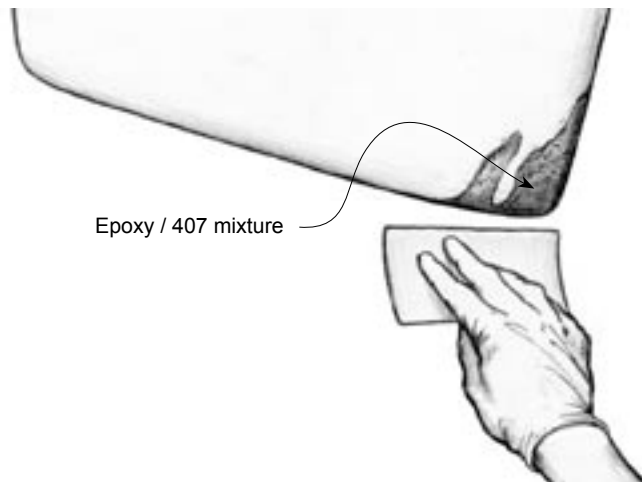

Figure 8-4 Trowel the epoxy/407 mixture into the voids and shape it to match the form of the keel.
6. Fill the voids with an epoxy/407 low-density filler mix, thickened to a peanut butter consistency. Trowel the mixture into the voids and shape it to match the form of the keel (*Figure 8-4*). If the volume of a void is larger than a golf ball, apply the mix in several applications to avoid excessive exothermic heat build-up. Allow the epoxy to cure thoroughly.